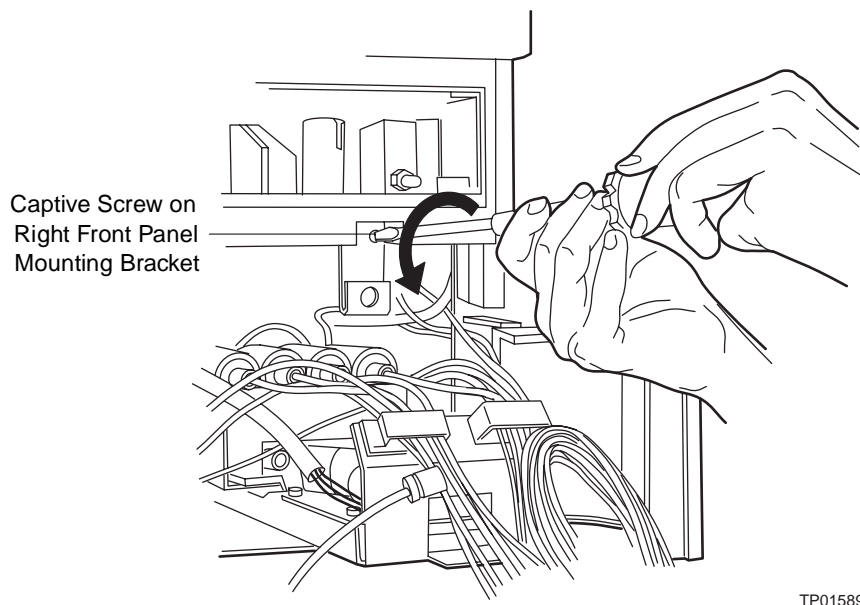

Figure 7-20 Loosening the Screw from the Right Front Panel Mounting Bracket
4. Use the screwdriver to loosen the captive screw under the sample compartment, then remove the right front panel mounting bracket (Figure 7-20).
6. Use the 5/8-inch open-end wrench to loosen (clockwise) the *reverse-threaded* nut under the needle-wash housing (Figure 7-20).
3. Use the T-20 Torx wrench to loosen the captive screw securing the holding bracket on the right side of the sample compartment (Figure 7-20), then remove the bracket.